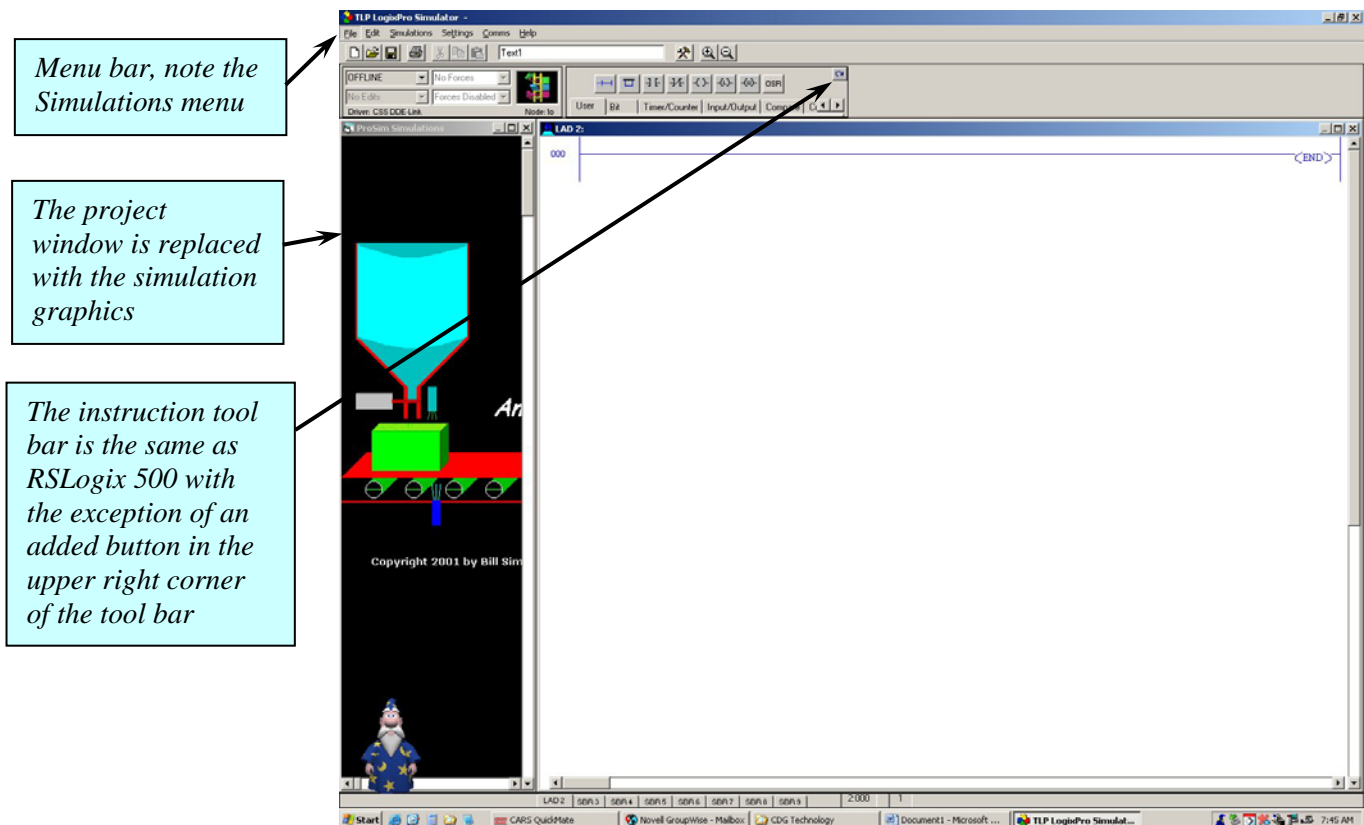

Figure 3
- ❑ Figure 3 shows the LogixPro environment after the software is initially started.